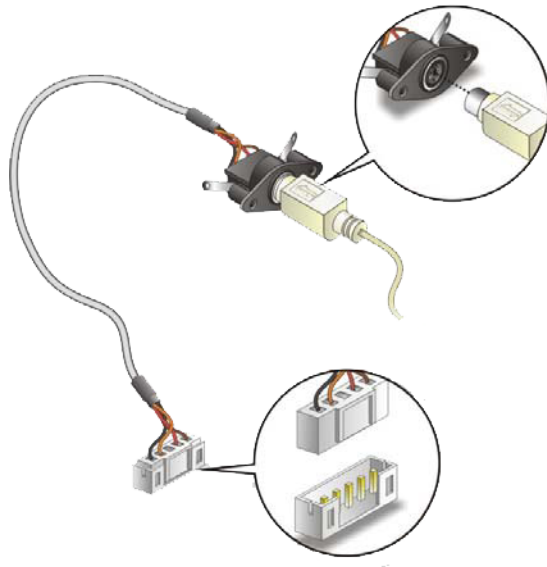

Figure 5-21: Keyboard/mouse Cable Connection
- Step 2: Align the connectors.** Correctly align pin 1 on the cable connector with pin 1 on the 3307680 keyboard or mouse connector. See **Figure 5-21**.
- Step 3: Insert the cable connectors** Once the cable connector is properly aligned with the keyboard/mouse connector on the 3307680, connect the cable connector to the onboard connectors. See **Figure 5-21**.